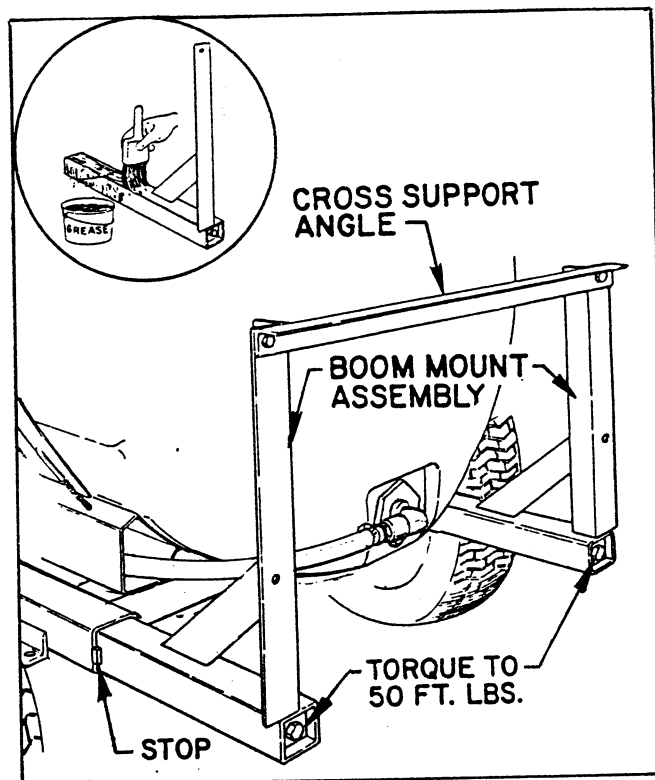

FIG. 6
- Install the two Boom Mount Assemblies into the Vehicle Frame as shown in FIG. 6. Use a torque wrench to tighten the long (1/4" x 8") screws which join the Wedges to the tubes. Tighten to 50 ft. lbs.
- Position the Cross Support Angle as shown in FIG. 6 and attach it to the Boom Mount Assemblies with two 1/2" x 1-1/4" hex hd cap screws, and lock nuts.